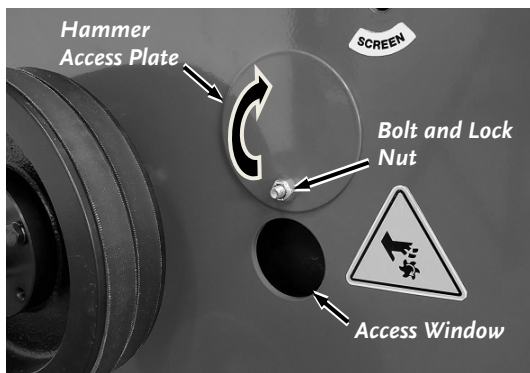

Figure 44
9. Loosen the Lock Nut and Bolt that holds the Hammer Access Plate to the Side Plate using two 7/16" Wrenches. Rotate the Plate upward to expose the Access Window (**Figure 44**).
18. Reposition the Hammer Access Window (**Figure 44**).